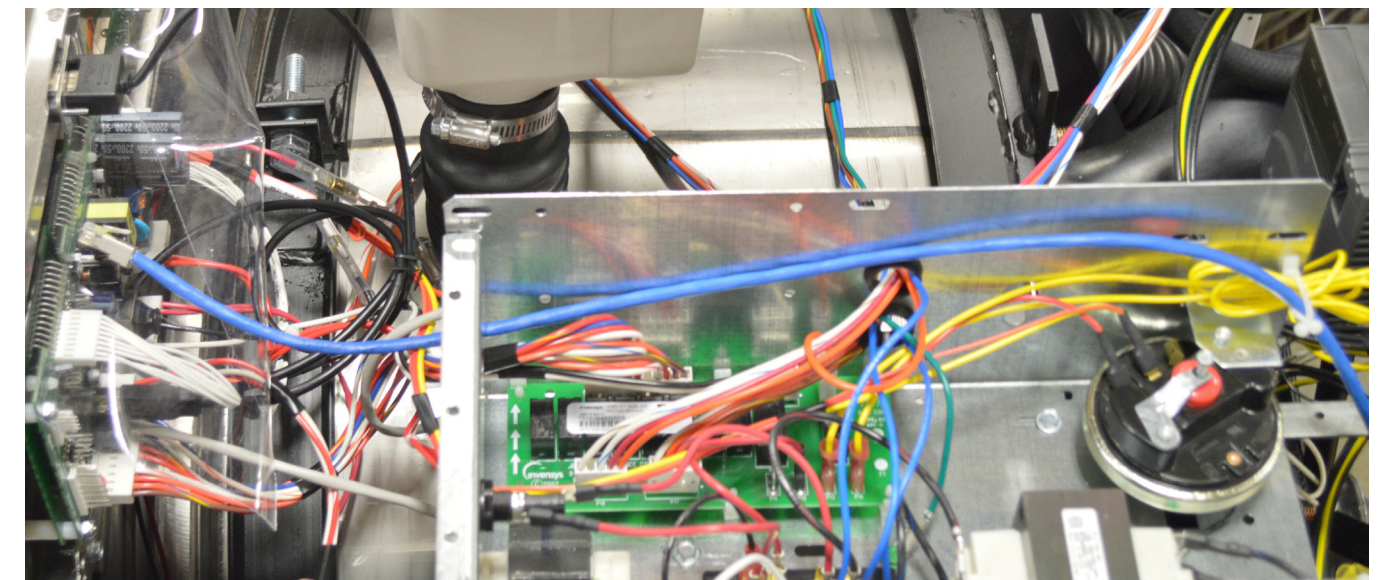

Figure 4
- Route the cable from the Ethernet switch to the front of the machine along the inside of the control trough where it can be connected to the control panel (Figure 4).